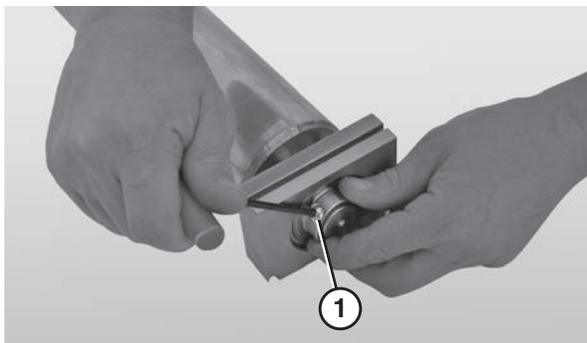

Figure 101
3. Use a 4 mm hex wrench to remove the button head screws that connect the bearing to the spindle (**Figure 101, item 1**).